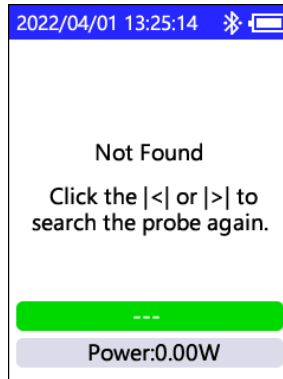

Figure 6. No Sensor Found
1. If the NanoView UC-10 fails to connect to the sensor or the scan has timed-out, **Not Found** will be displayed (Figure 6). Disconnect / reconnect the sensor to ensure proper connectivity and retry the scan.